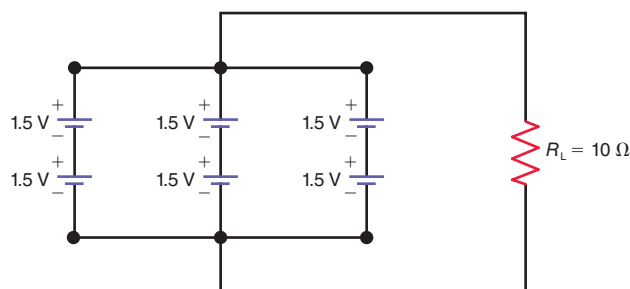

Figure 10-29
10.5 Repeat Prob. 10-1 for the circuit in Fig. 10-29.